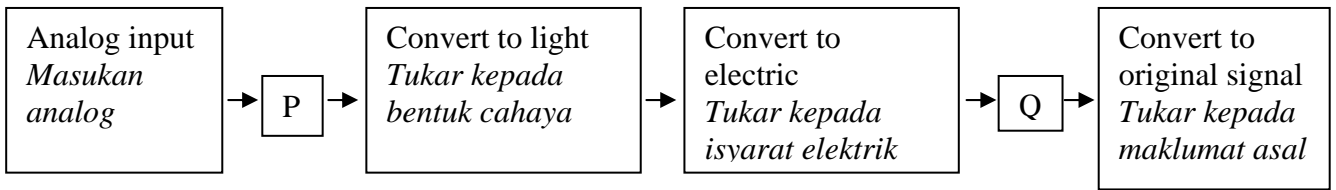

FIGURE 11
21. Figure 11 shows a simple fibre optic communication process.